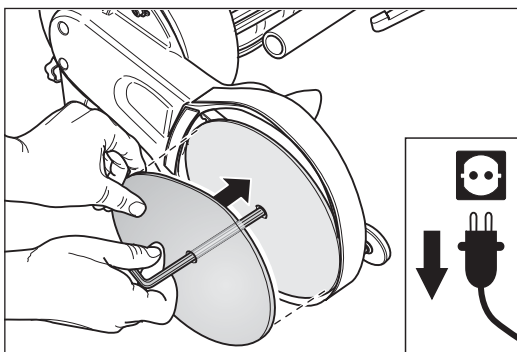

Fig. 46 To centre the sanding disc, insert the Allen key into the hole of the sanding disc and then into the hexagon socket of the sandpaper tensioning screw.
- 6 Set the Velcro sanding disc in place by inserting the Allen key in the hole of the sanding disc first and then into the hexagon socket of the sandpaper tensioning screw (Fig. 46). Then move the sanding disc up to the sanding disc wheel so that it rests precisely in centred position on the sanding disc wheel.